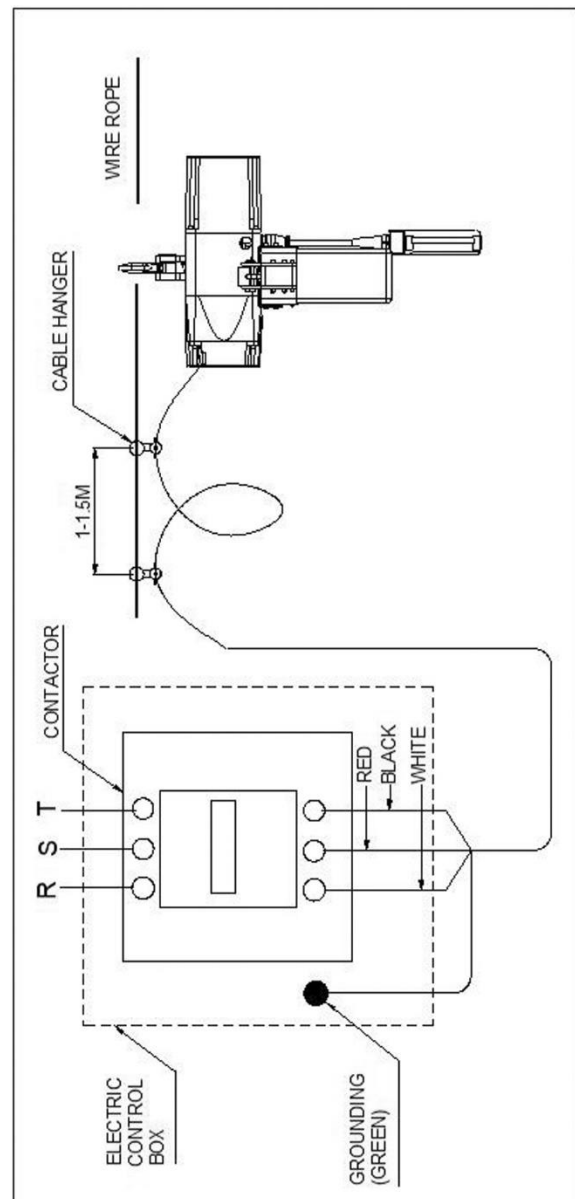

Figure 9-1
**IMPORTANT:** The power cable should be directed so that it is safely out of the way of loads. If a trolley is used, power cable must not interfere with, or be pinched by, trolley travel. See Figure 9-1 for a recommended solution.